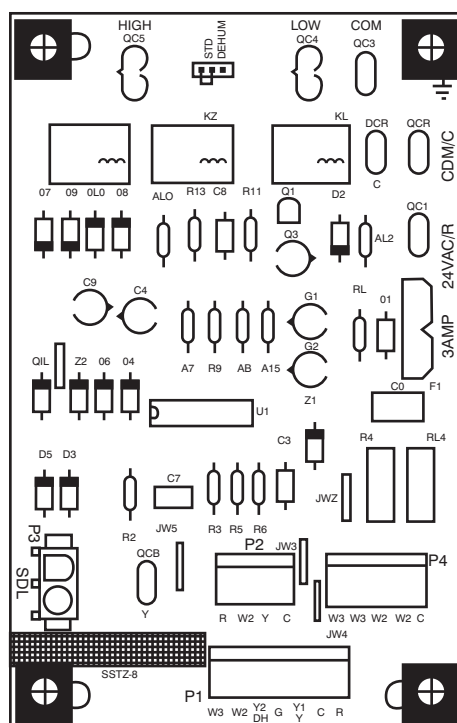

Fig. 16 - Interface Fan Board (IFB)
The cooling speed is marked “LOW” on the interface fan board (IFB) (See Fig. 16) . The factory-shipped settings are noted in Table 4. There are 4 additional speed tap wires available for use in either electric heating or cooling (For color coding on the indoor fan motor leads, see Table 3). The additional 4 speed tap wires are shipped loose with vinyl caps and are located in the control box, near the interface fan board (IFB) (See Fig. 16).
2. Remove the current speed tap wire from the “LOW” terminal on the interface fan board (IFB) (See Fig. 16) and place vinyl cap over the connector on the wire.
1. Using Fig. 16, move the two pin DEHUM jumper from the “STD” position to the “DEHUM” position.
2. Remove fan speed tap wire from the “LOW” terminal on the interface fan board (IFB) (See Fig. 16).
1. Move the two pin DEHUM jumper located on control board (see Fig. 16) from the “STD” position to the “DEHUM” position.
When the DEHUM feature is not used, the continuous fan speed will be the same as cooling fan speed. When the DEHUM feature is used, the continuous fan will operate on IFB “LOW” speed when the DH control lead is not energized, or IFB “HIGH” speed when the DH lead is energized (see Fig. 16).